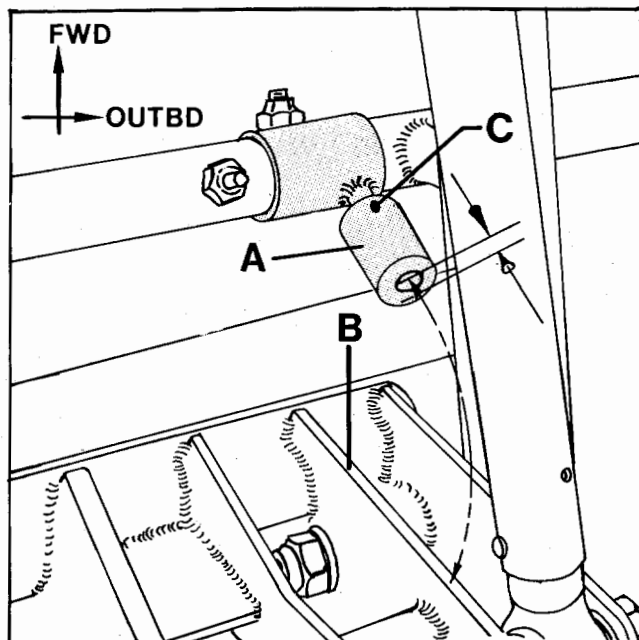

Figure 5-9. MECHANICAL UP STOP
With gear fully retracted, adjust stop for .050-.070 clearance between up stop (A) and retracting truss (B), then tighten set screw (C). (Fig. 5-9)